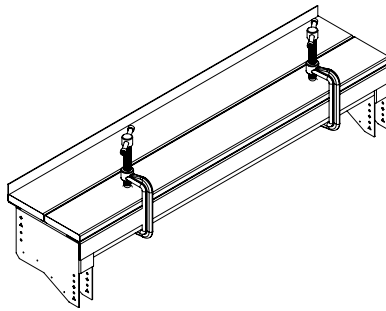

Fig. 86
- Extend pre-drilled holes through cut U-Rim Joist. As shown in Fig. 86.